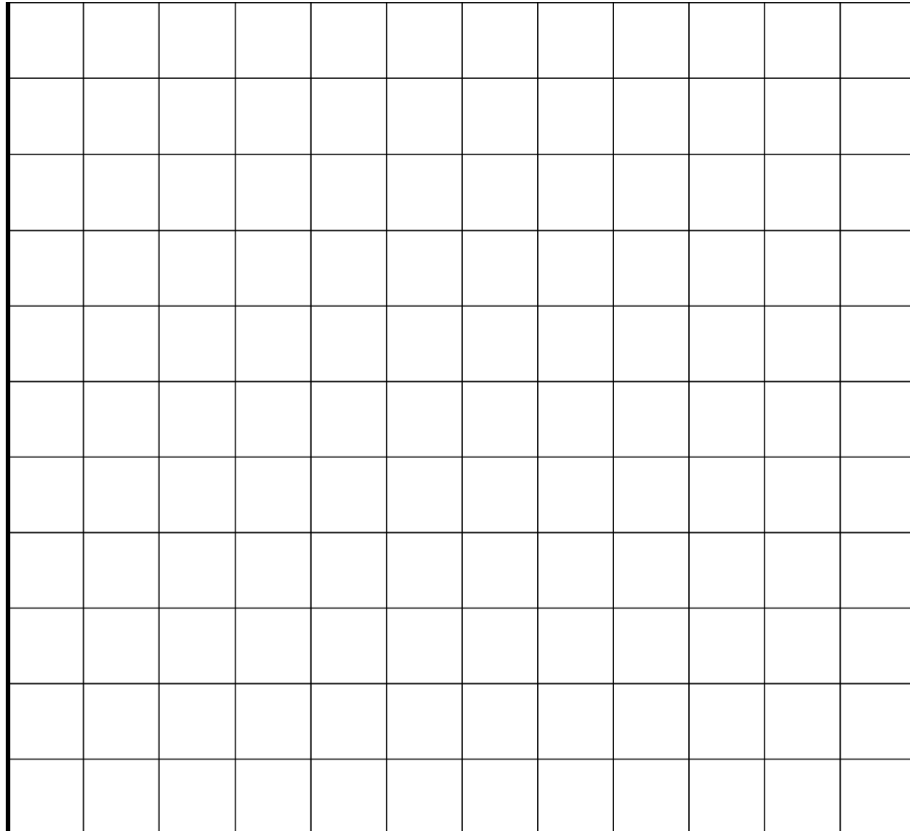

Fig. 2.1.1.3: Characteristics $I = f(U)$ and $R = f(U)$ for the NTC resistor at room temperature
- Also, plot the values of U and R in the chart (Fig. 2.1.1.3). The y-axis of the coordinates system is also used as a resistance scale.
- Break the circuit in Fig. 2.1.1.1 by removing a bridging connection. Set the voltage at the output of the source to 20 V. Select a suitable current range on your multimeter corresponding to the expected current flow.